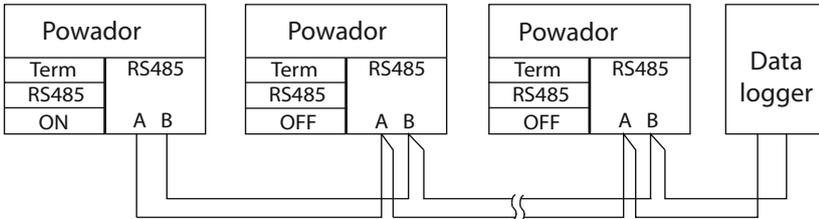

Figure 19: RS485 interface wiring diagram
- Wire B (+) with wire B (+) (see Figure 19 on page 27)